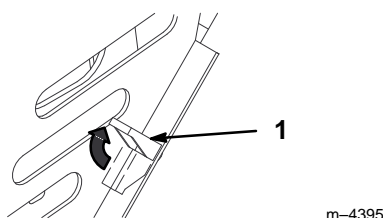

Figure 16
3. Release the four locking tabs (Fig. 16).
1. Position the hood over the traction unit frame with the posts on the hood fitting into the holes on the frame (Fig. 16).
2. Secure the hood by pushing the locking tabs forward and down (Fig. 16).